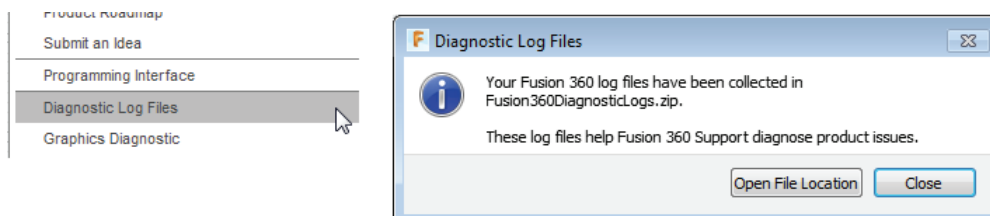

Figure-77. Diagnostic Log Files
- To create log files, select **Diagnostic Log Files** tool in **Help** drop-down. The **Diagnostic Log Files** dialog box will be displayed; refer to Figure-77.